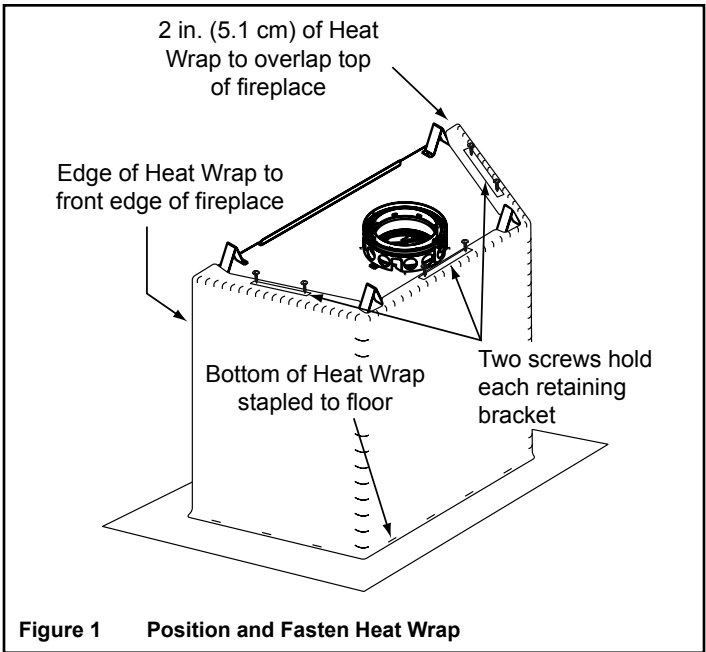

Figure 1 Position and Fasten Heat Wrap
- Position the edge of the Heat Wrap as shown in Figure 1. Lap the insulation over the top of the unit by two inches and secure the retaining brackets using screws provided in the fastener package. Retaining brackets must be used to secure the Heat Wrap to the fireplace.